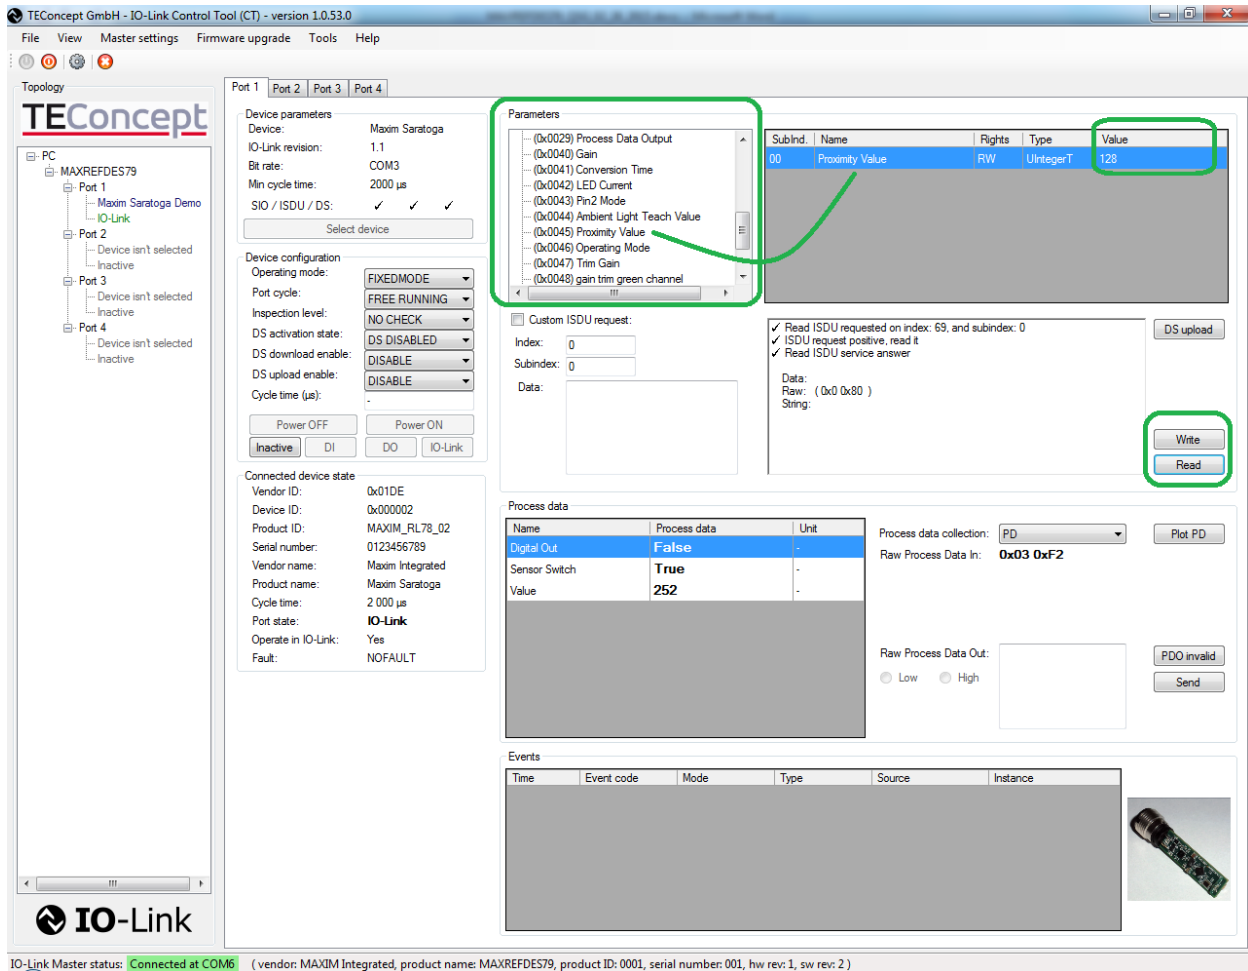

Figure 11. Read and write to parameters by using the Read and Write buttons.
12. Read and write to parameters by selecting a parameter in the **Parameters** box and then use the **Read** button to read the parameter. The value gets displayed in the **Value** field circled in Figure 11. Also, when writing to a parameter, first edit the value in the **Value** field using the mouse/keyboard and then press the **Write** button. Verify by pressing the **Read** button. See Figure 11.